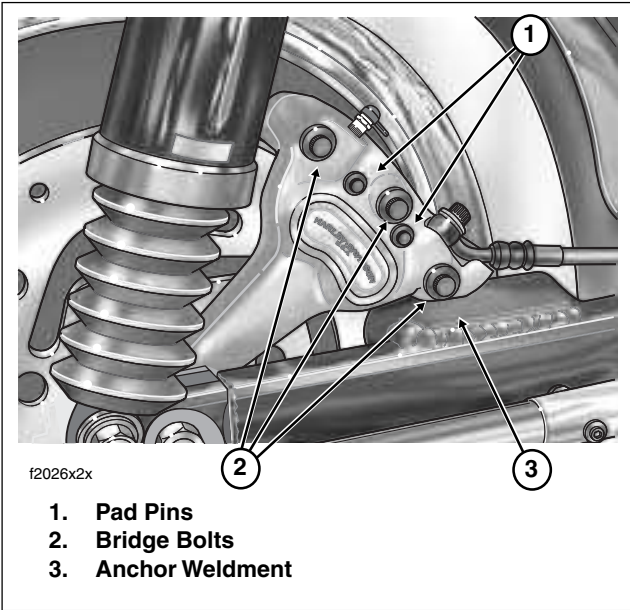

Figure 2-65. Loosen Both Pad Pins
2. Loosen both pad pins, but do not remove. See Figure 2-65.
1. See Figure 2-65. Remove two pad pins. Remove brake pads from caliper housings.